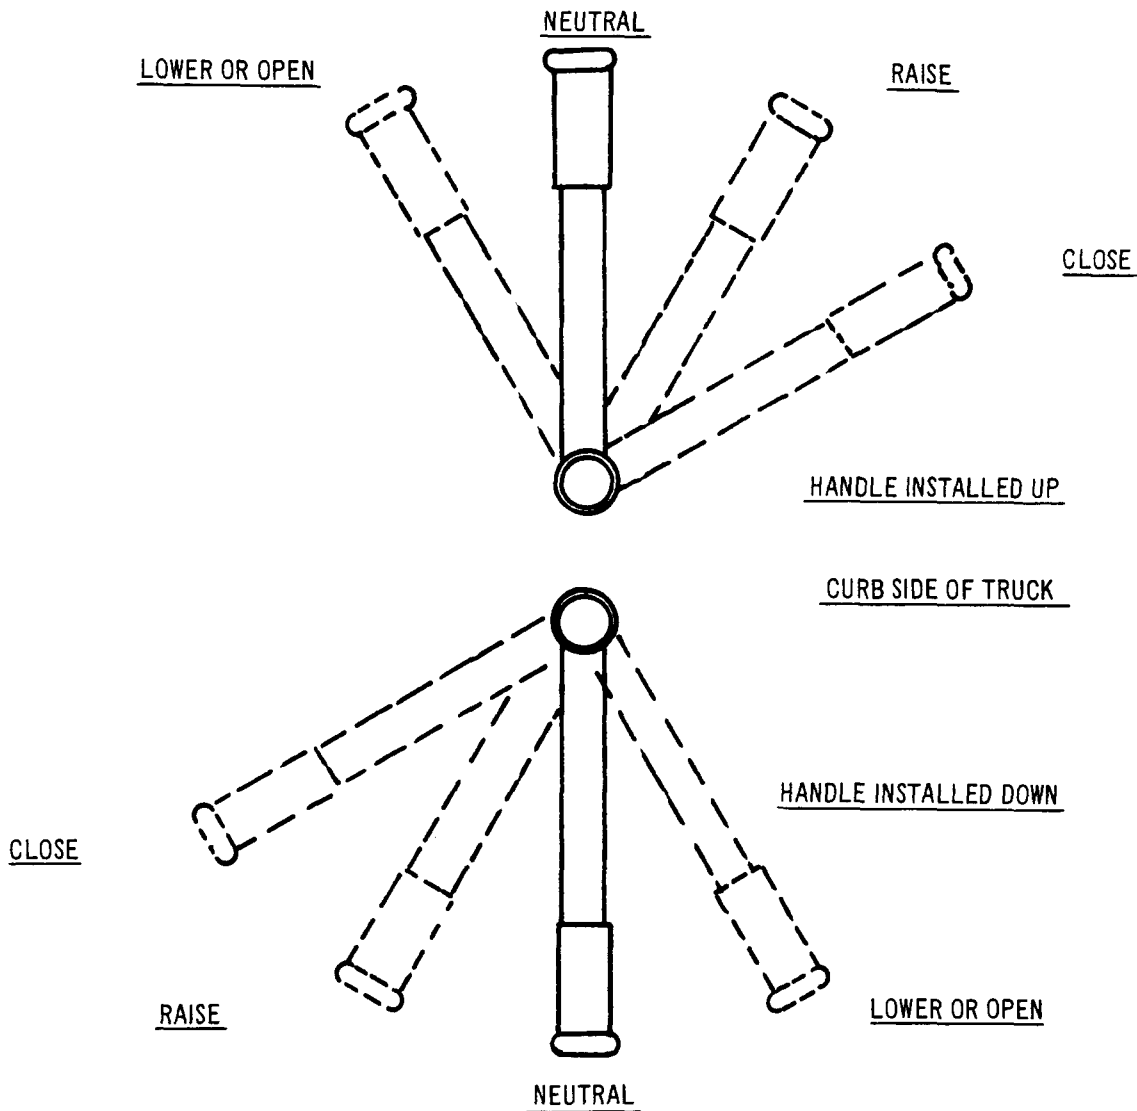

Fig. 26
16.01 Before opening or lowering the lift gate, move operating handle to the "raise" position, to disengage the safety hooks. See Fig. 26.
- (b) Move operating handle to "close" position. Forks will engage idler arms and gate will close. See Fig. 26.